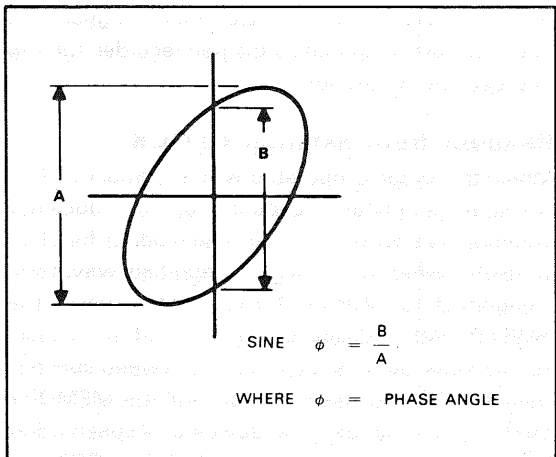
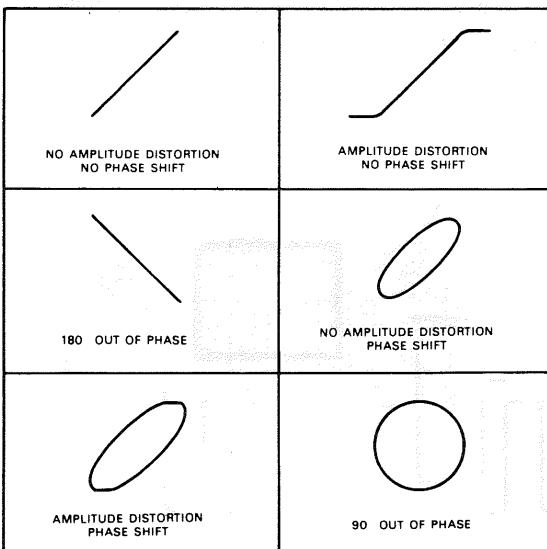

Fig. 9. Phase shift calculation
Fig. 8. Typical phase measurement oscilloscope displays
- Some typical results are shown in Fig. 8. If the two signals are in phase, the oscilloscope trace is a straight line. If the vertical and horizontal gain are properly adjusted, this line is at 45° angle. A 90° phase shift produces a circular Lissajous' pattern. Phase shift of less (or more) than 90° produces an elliptical Lissajous' pattern. The amount of phase shift can be calculated by the method shown in Fig. 9.